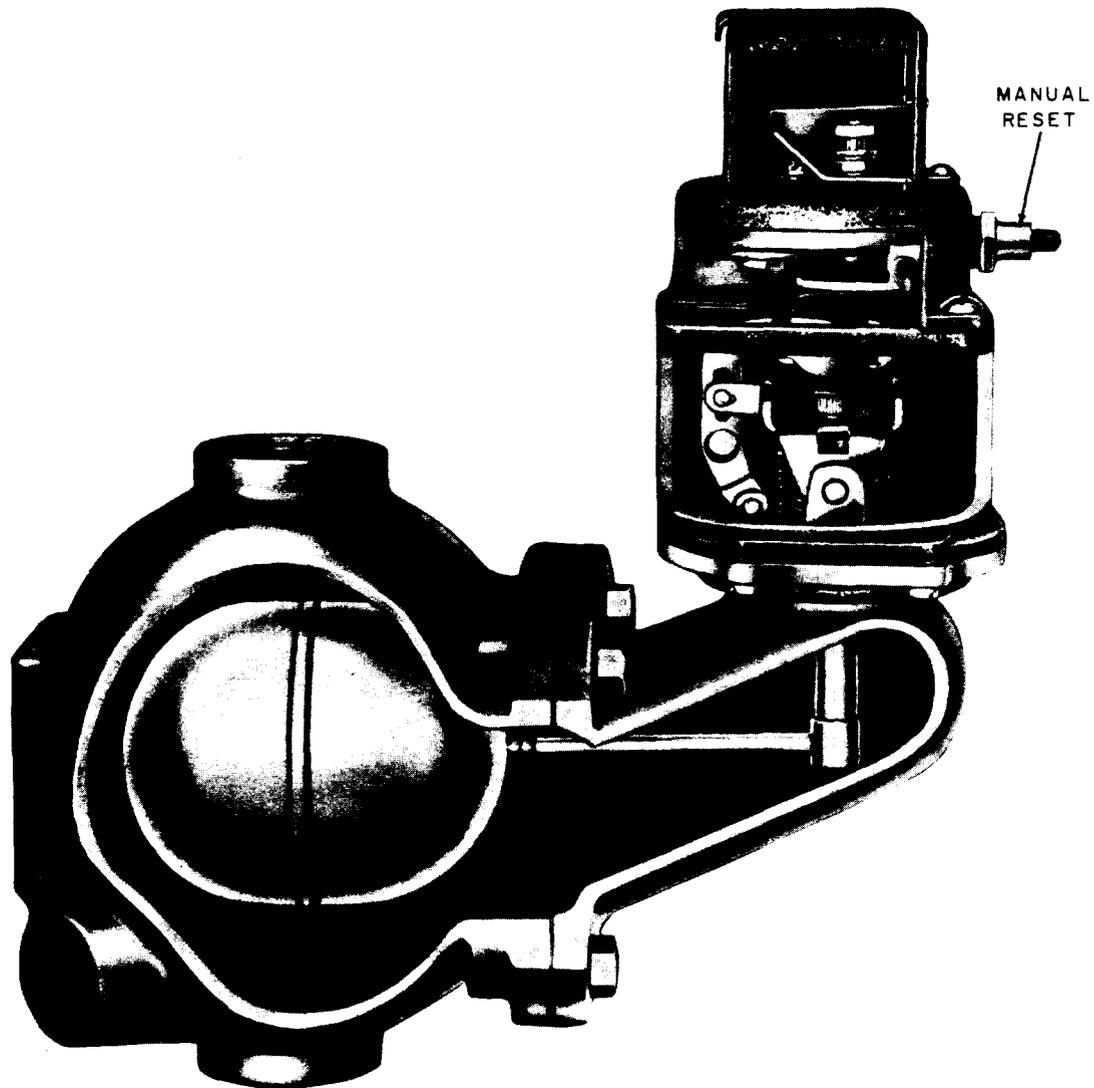

Fig. 29—Low Water Fuel Cutoff With Manual Reset—Mechanical Switch (McDonnell and Miller, Inc.)
**8.49** Low water limit controls may be generally divided into two classes, *float type* and *probe type*. The float type maintains electrical continuity by actuating an electrical switch by the level action of a float that positions itself with respect to changes in the boiler water level. If the water should fall below a certain level, the switch will open. The probe type maintains electrical continuity through two electrodes being in contact with the boiler water. If the water level should fall enough to break contact with one of the electrodes, the control circuit will open. If the control circuit opens, the system will shut down. The low water limit controls must be reset manually. Float-type low water fuel cut-off controls are illustrated in Fig. 29 and 30.